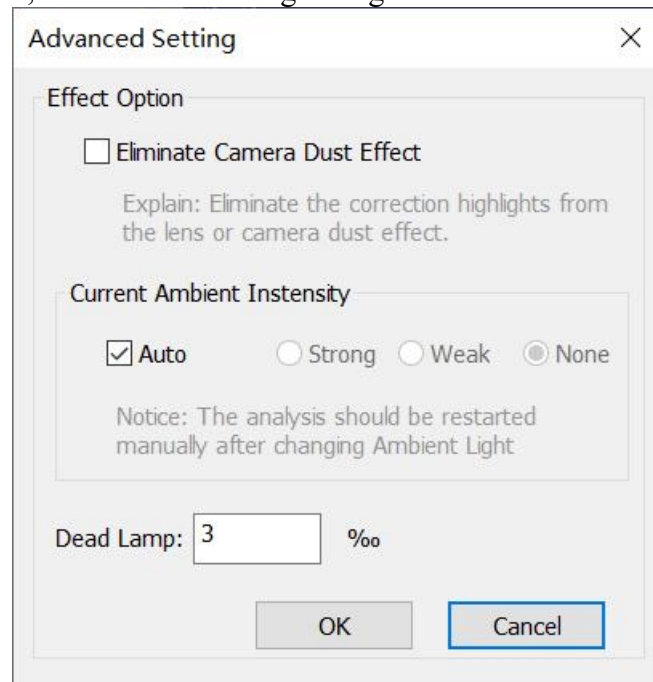

Fig. 6-3 Effect Setting-3
a.Canon camera,the advanced setting dialog cabinet is as shown in Fig.6-3.